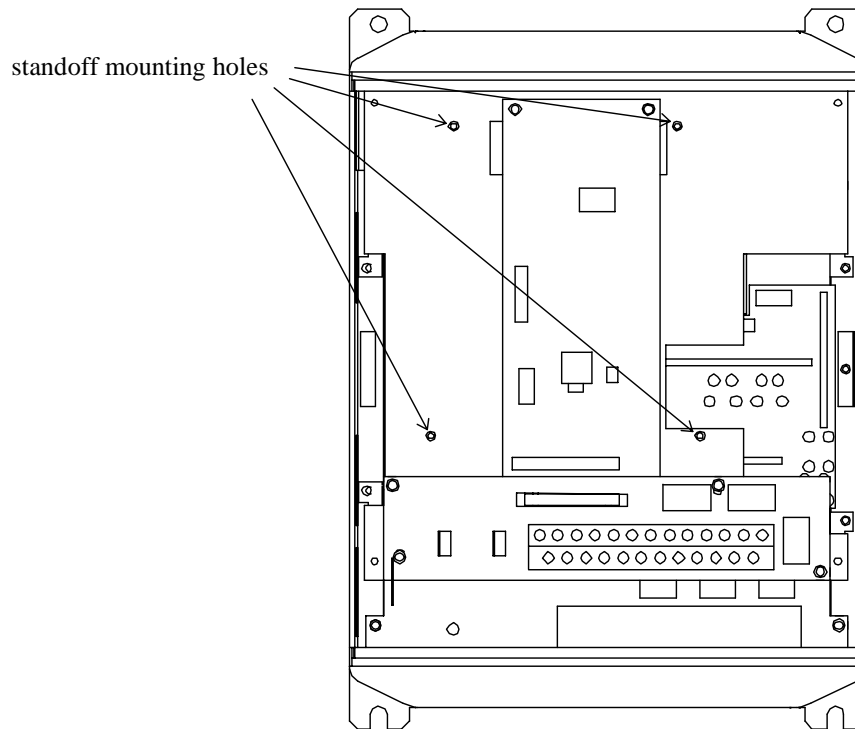

Figure 2: *G3 with front cover and operation panel support bracket removed*
5. Install the 4 plastic option board standoffs into the holes provided in the control board support bracket (refer to Figure 2).